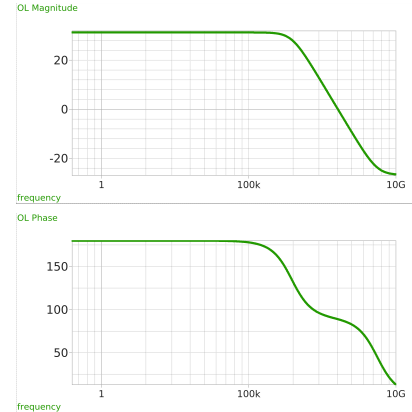

Figure 8: Testbench inverter_tb_ac_ol (open-loop ac characterization).
- `inverter_tb_ac_ol.sch` measures the open-loop frequency response (see Figure 8).